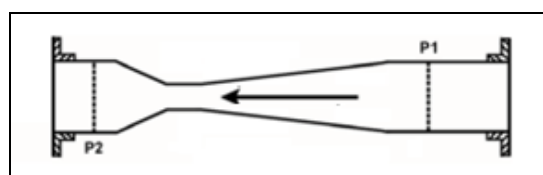

Fig.6 Divergent pipe
6.1 Determine the coefficient of discharge for flow rates under different opening conditions like 1/4th, 1/2th, 3/4th, and full opening in a pipe line. The testing apparatus for evaluating divergent losses is illustrated in Fig.6.